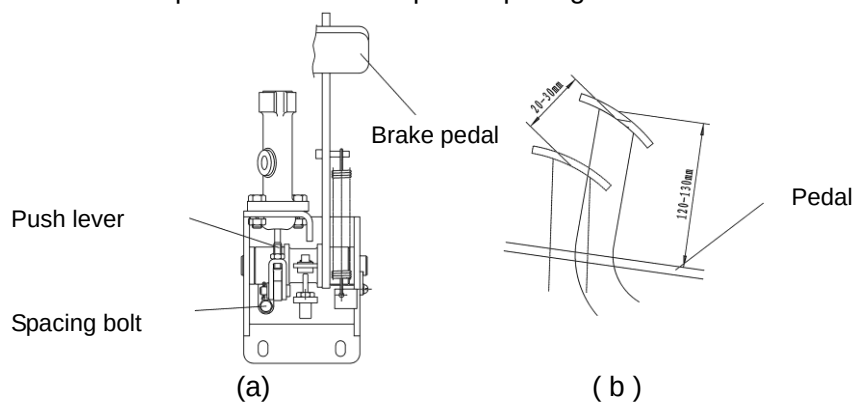

Figure 2-6
2.6 Adjusting the brake pedal as shown in Figure 2-6 (a)